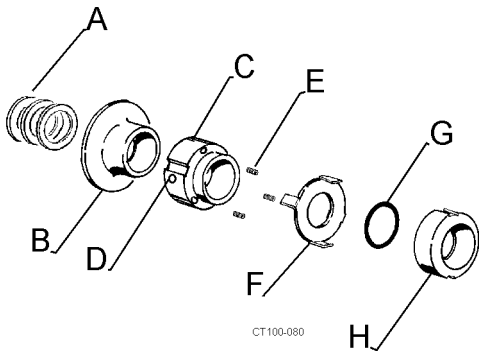

Figure 31 - Type 1 Seal Assembly
4. Slide the tabbed washer (Figure 29, item F) over the impeller shaft and engage the tabs of the washer into notches on the outside of the rotary seal (Figure 31, items F and H).
5. Install the three seal springs into the holes in the spring retainer (Figure 31, items C and E). Hold the springs in place with RTV silicone sealant.
6. Slide the spring retainer over the impeller shaft until the slots in the spring retainer engage the drive tabs on the washer and the springs rest against the washer (Figure 31).
8. Lock the spring retainer in place by tightening the set screws (Figure 31, item D).
9. Install the deflector onto the impeller shaft (Figure 31, item B).